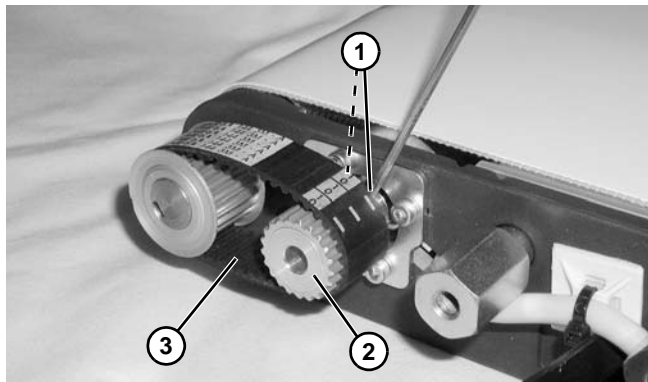

**Figure 127**
4. Loosen four clamp plate screws (**Figure 127, item 1**).
5. Loosen timing belt tension cam (**Figure 127, item 2**).